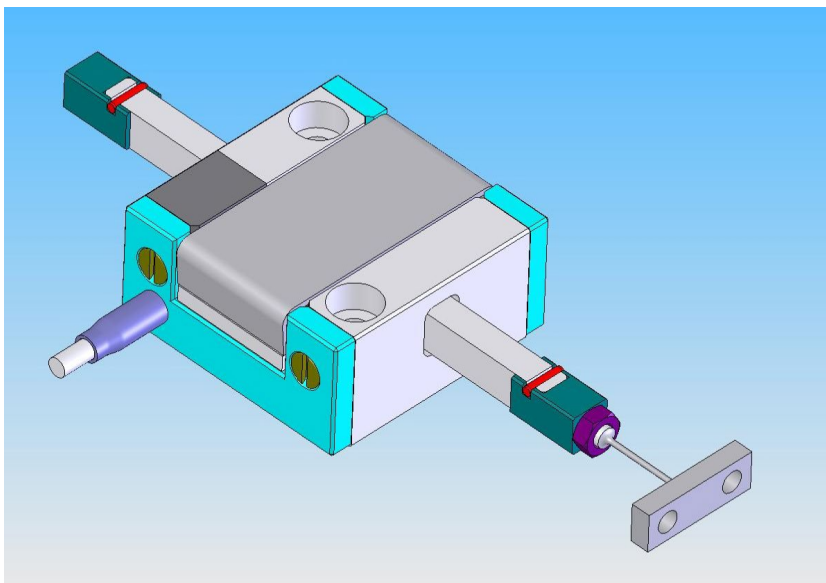
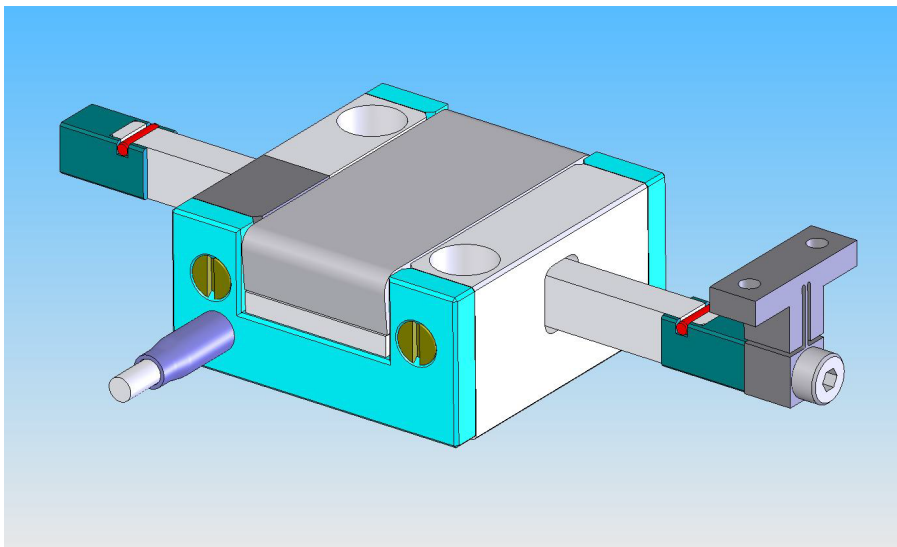

Figure 1: NEXACT® drive with an example for a coupling, here: example of N-310.10
Figure 2: NEXACT® drive with another possible coupling, here: example of N-310.10
- ✓ The coupling between rod and stage must be very stiff in the rod's motion direction, here along X axis, but flexible in Y axis. See Fig. 1 and Fig. 2 below for a drive with two examples for a coupling.